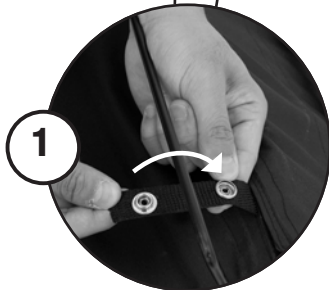

Fig. 5A
- Align and wrap button straps around support bar (Fig. 5A, Fig. 5B).